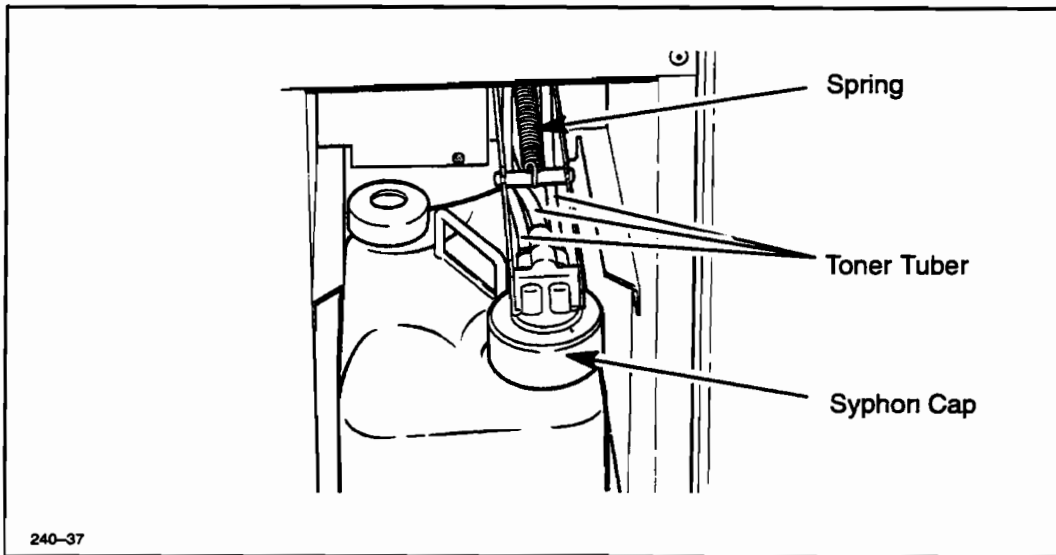

Figure 6-51. Syphon Assembly
4. Unscrew the syphon assembly cap and allow the assembly to rise to the full upright position. Gently tap the toner tubes to drain any residual toner. See Figure 6-51.
9. With the syphon assembly in its upright position, use needle-nose pliers to release the spring from the rear of the syphon bracket. See Figure 6-51.
12. Using a #2 Phillips screwdriver, remove the two screws that mount the syphon assembly to its bracket. See Figure 6-51.